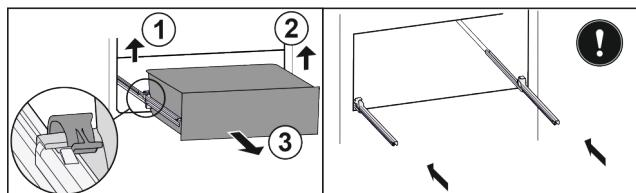

Fig. 34\*
- Lift the left clamp and simultaneously pull the drawer on the left forwards Fig. 34 (1).\*
- Lift the right clamp and simultaneously pull the drawer on the right forwards Fig. 34 (2).\*
- Take out the drawer to the front Fig. 34 (3).\*